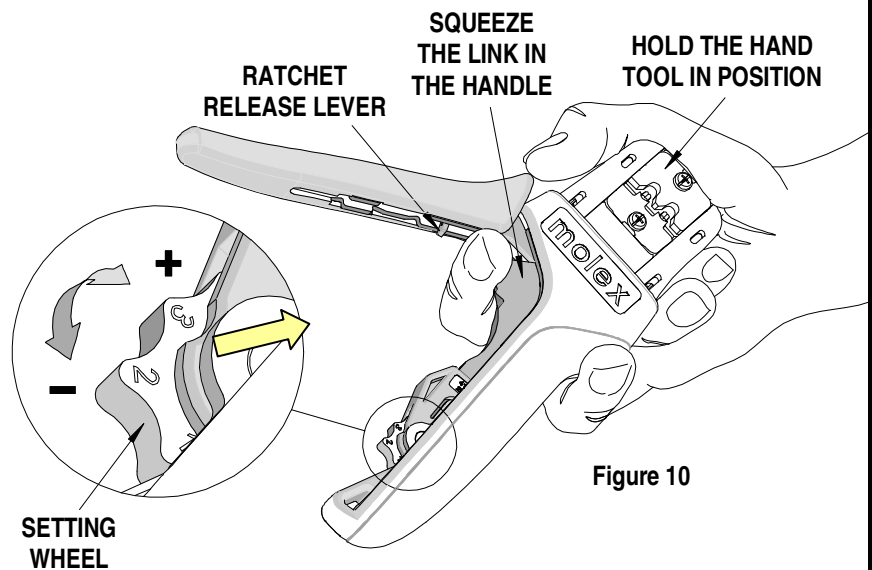

Figure 10
## How to Adjust Tool Preload (See Figure 10)
1. Hold the hand tool in the palm of your hand as shown in Figure 10. Using the index finger squeeze the link towards the top of the hand tool frame. This will release the preload adjustment wheel.
2. Rotate the setting wheel counter-clockwise (CCW) to increase handle force. The numbers will display higher. To decrease handle force rotate the setting wheel clockwise (CW).